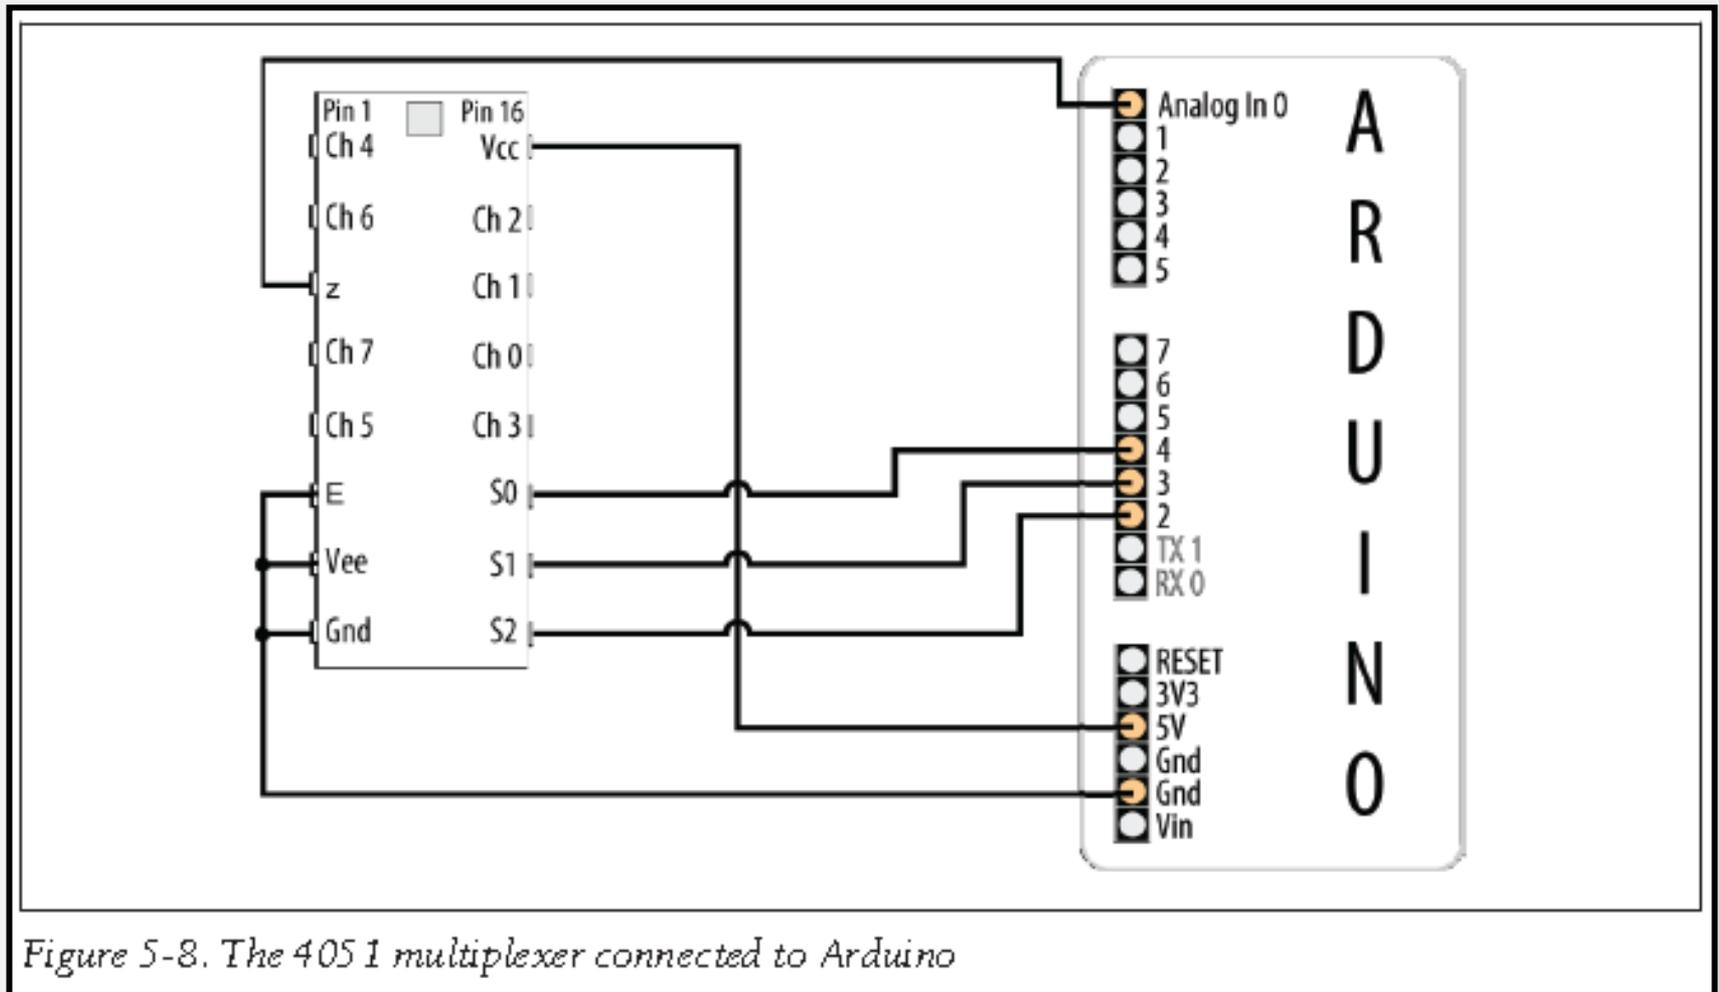

Figure 5-8. The 4051 multiplexer connected to Arduino
- Use a multiplexer chip to select and connect multiple voltage sources to one analog input. By sequentially selecting from multiple sources, you can read each source in turn. This recipe uses the popular 4051 chip connected to Arduino as shown in Figure 5-8. Your analog inputs get connected to the 4051 pins marked Ch 0 to Ch 7. Make sure the voltage on the channel input pins is never higher than 5 volts: